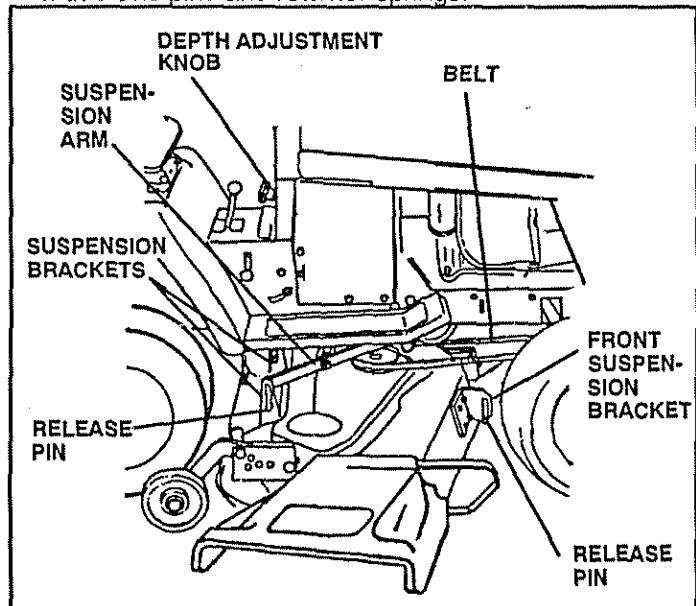
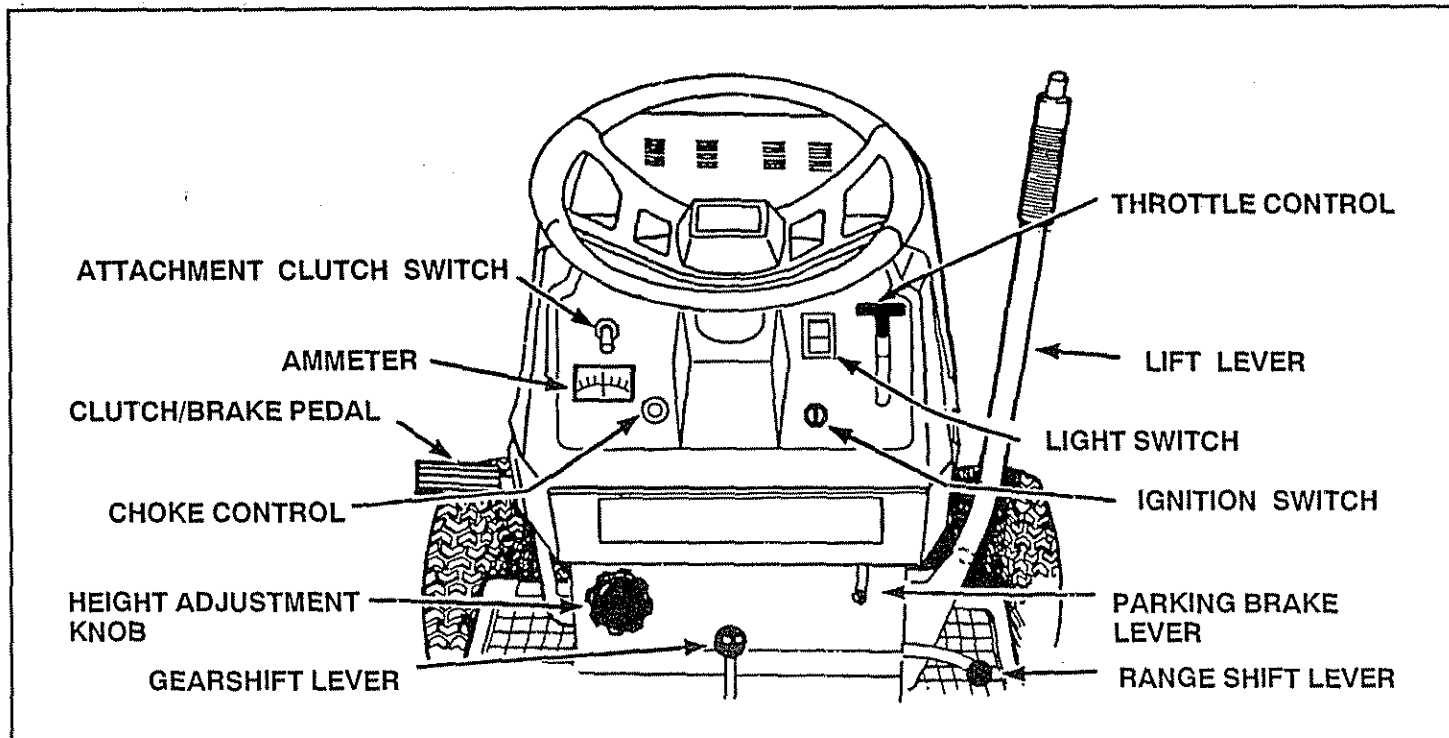

FIG. 7
FIG. 12
MOWER INSTALLATION (See FIGS. 7, 8, 9 and 10)
- Slide front suspension brackets into mower brackets. Retain with release pins (FIG. 7). Turn depth adjustment knob counterclockwise until it stops. Lower mower linkage with attachment lift lever (See FIG. 12).
- Insert gauge wheel bar into bracket (See FIG. 7). Retain with clevis pins and retainer springs.
TO OPERATE MOWER (See FIGS. 12 and 13)